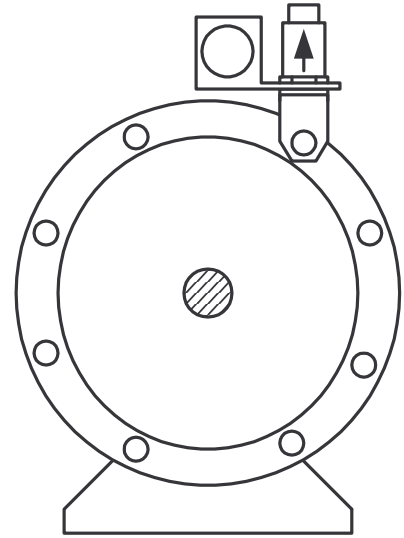

Figure 2
3. Remove nut from upper-right stud of the Tail Rotor Gearbox flange and install the Vibration Sensor Mount on the stud. (Figure 2)
4. Install the Phototach (Item 2) through the hole in the Phototach Mount so that the lens of the Phototach faces the back side of the Tail Rotor. Secure with the nylon nut or sunshield. (Figure 2)